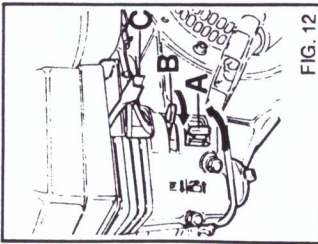

FIG. 12
- 1) Set the fuel tap lever A in ON position (fig. 12).
- 2) Set the choke lever B in start position (fig. 12). If the engine is warm or there is a high environmental temperature, leave the "CHOKE" position as soon as the engine starts.
- 2) Set the fuel tap lever in OFF (fig. 12).